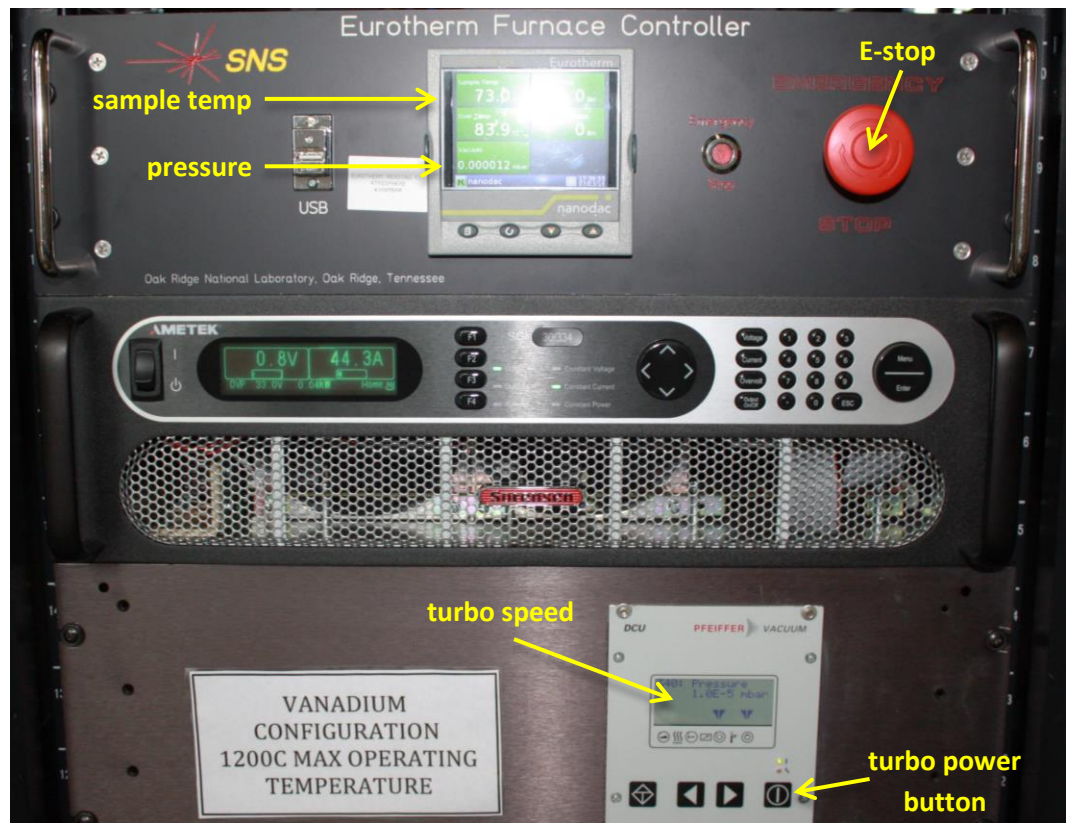

Figure 2. MICAS furnace controller.
- c. Turn off power to the heating elements by pressing the E-stop on the furnace controller (Figure 2).
- d. Once the furnace is below 300°C, press the power button on the turbo pump controller to start it spinning down (Figure 2).